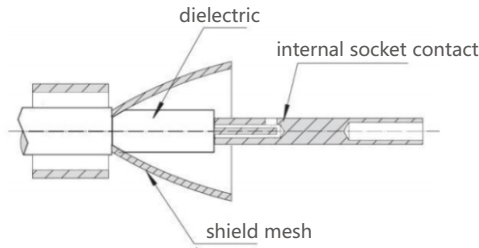

Figure 2.3
③Spread the shield layer outward and strip off the dielectric part of the cable.
④As shown in Figure 2.3, pass the center conductor through the socket contact. The cable's center conductor must be visible through the observation hole on the socket contact, and the socket must be pressed against the rear insulator.